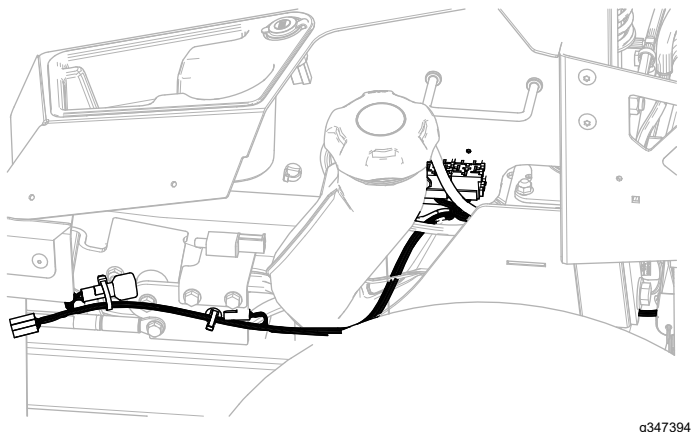

Figure 18
2. Route the wire harness (Figure 18) along the left side of the frame, and through the push-mount fastener that you installed in step 1.